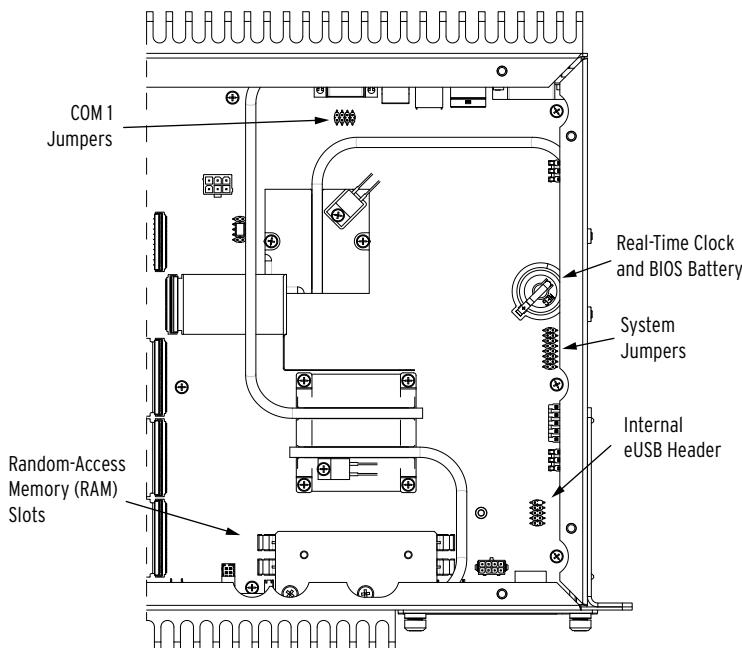

Figure 3.1 Main Board Diagram
Figure 3.1 shows the components and their locations on the SEL-3555-2 main board.
- Step 9. Locate the battery on the right side of the main board (see *Figure 3.1*).